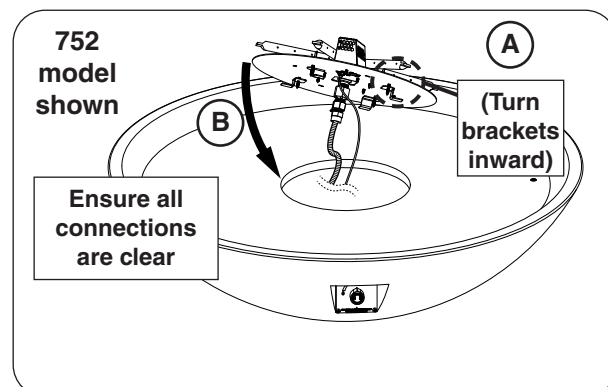

Fig. 31-2 Insert burner assembly (if applicable)
1. Ensure that the four burner brackets are turned inward, then insert the burner assembly (see Fig. 31-2, A-B).